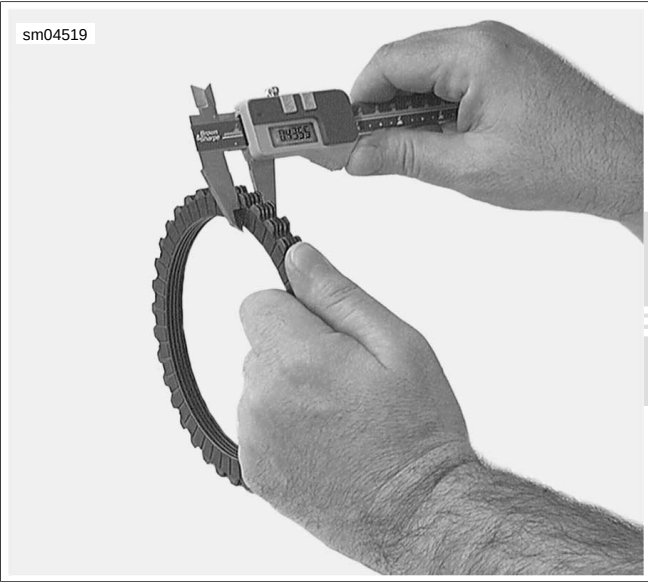

Figure 5-14. Measuring Clutch Friction Plates
- b. Inspect all fiber plates (10) for worn lining surfaces or checked or chipped linings.
- c. Inspect each steel (drive) plate (9) for grooves.
- e. See Figure 5-14. Wipe the lubricant from the eight friction plates and stack them on top of each other. Measure the thickness of the eight stacked friction plates with a dial caliper or micrometer. The minimum